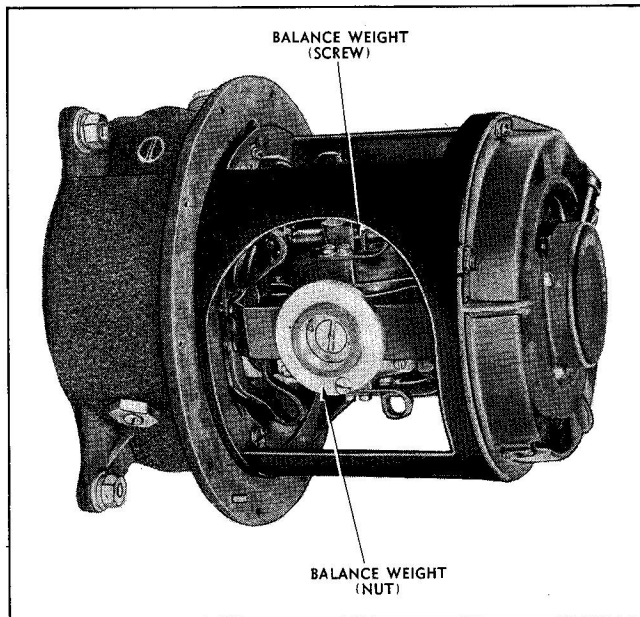

Figure 4-16 Static Balancing of Gyro Assembly and of Gyro and Vertical Ring Assembly
(3) Set the assembly on its side as shown in figure 4-16. Keep the vertical ring secured.
(4) Balance the top side against the bottom side by adjusting the balance weight (screw) on the gyro cover to the left or right as necessary. (See figure 4-16.)
(d) **Balancing The Gyro And Vertical Ring Assembly.** Leave the vertical ring and gyro assembly on its side as shown in figure 4-16. Set the gyro housing axis horizontal and do not secure the vertical ring.